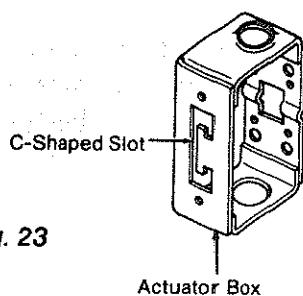

Fig. 23
4. Place an *actuator box* in front of you with the C-shaped slot facing you and the closed surface of the box to the left. This will become the *left foot assembly*. (Figure 23)